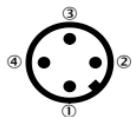
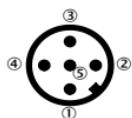

Figure 13: Pin assignment for M12 x 1, 4-pin
Figure 14: Pin assignment for M12 x 1, 5-pin
The electrical connection is established using a round connector M12 x 1. Table 3, Figure 13, Table 4, and Figure 14 display the pin assignments for the various device versions/existing output signals.
7.4.2. Menu structure, description of the parameters, and factory settings (Figure 14)